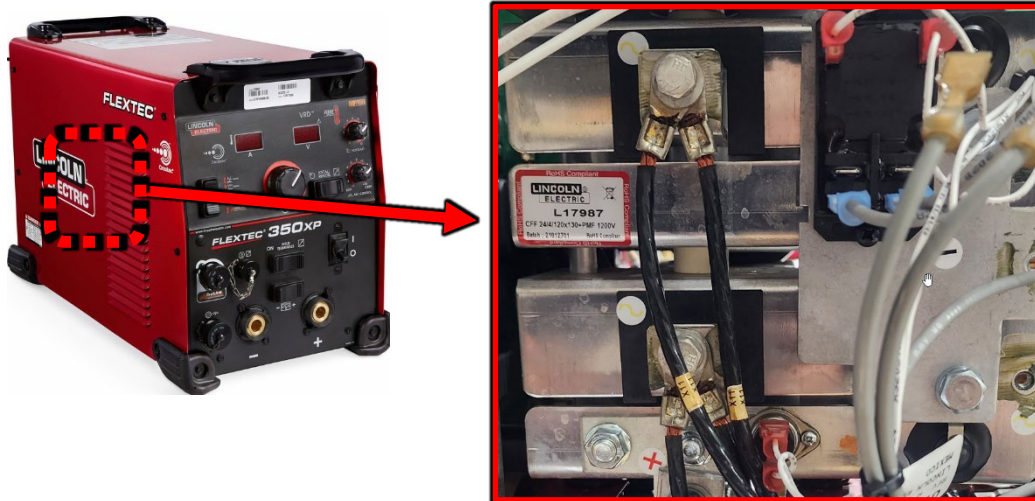

Figure F.1
1. For location of Output Rectifier refer to Figure F.1.